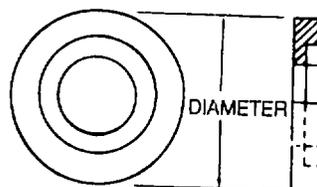

Figure 2-32. Taper Pin Washer
c. High Tensile Special Washers. Taper pin, high tensile, countersunk, and preload indicating special washers are identified in figures 2-32 through 2-35.
(1) Taper pin washers. Use a taper pin or dished washer, AN975, in conjunction with threaded taper pin, AN386 install washer under nut AN320 to effect adjustment where a plain washer would cause distortion.
(2) High tensile washers. Use a high tensile washer, MS20002, in conjunction with high tensile internal wrenching bolts, MS2004 through MS20018. A Type C washer is countersunk to seat the bolt head shank radius, and a plain type washer is used under the nut Plain and countersunk washers, MS20002 and MS20002C, are heat-treated to 125,000 to 145,000 psi.
(3) High Tensile Countersunk washers. Countersunk washers, commonly called dimpled washers, are for use with 100-degree flat-head screws, or rivets, to provide reinforced, low-profile attachments in such locations as fillets and other fairing installations. Identify countersunk washers by part number. Examples: A3236-0.012 (No. 6 screw), A31350-0 017 (No. 8 screw), A3235-0.020 (No. 10 screw).